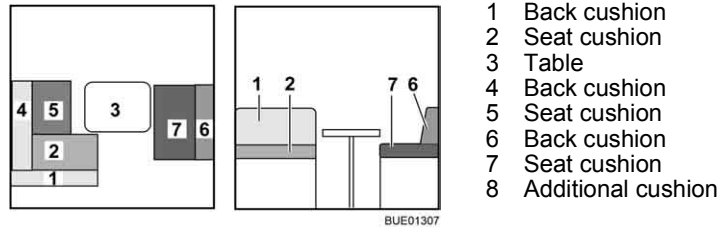

Fig. 141 Prior to conversion
- Convert the table (Fig. 141,3) to a bed foundation (see section 6.11).
- Remove the back cushions (Fig. 141,1 and 4) and lay them aside.